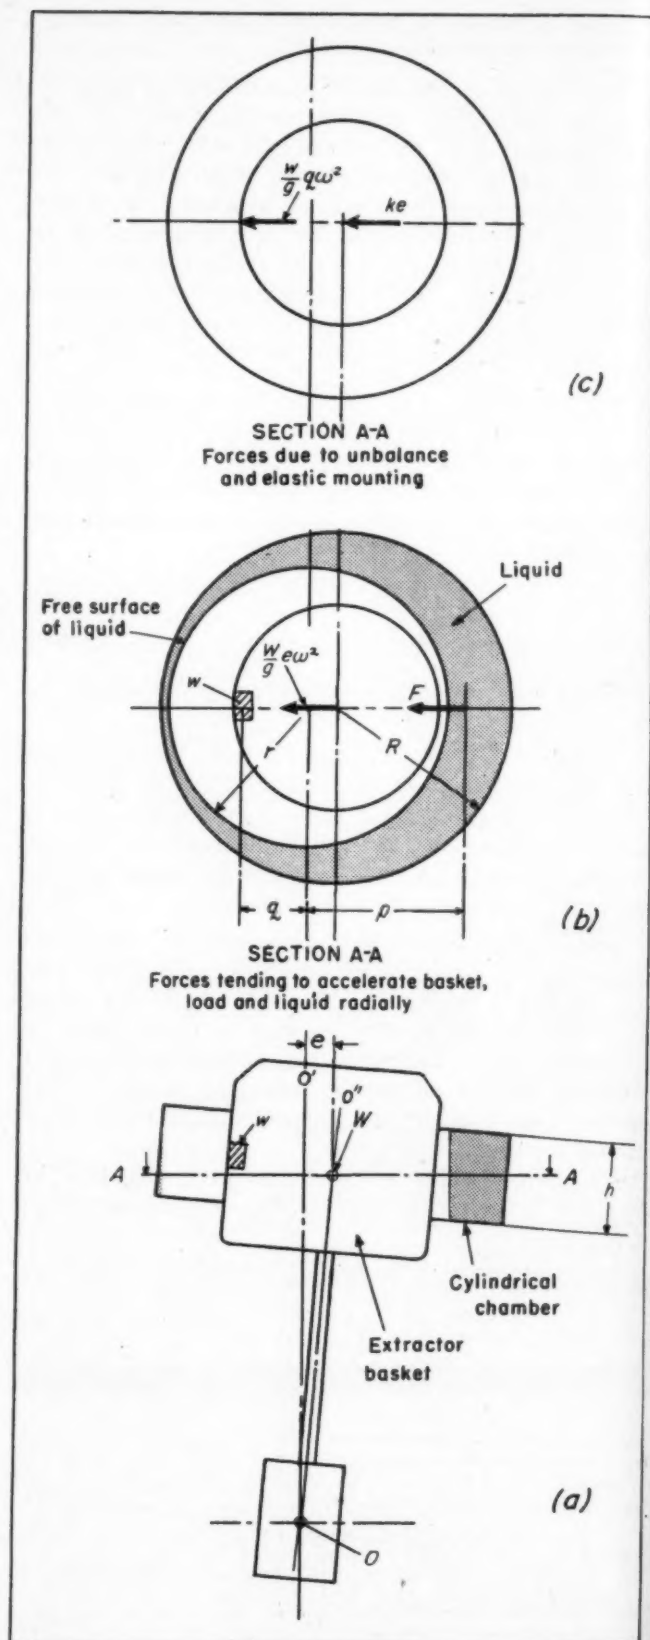

Fig. 5—Diagram of Leblanc balancer for typical operation above critical speed. For this state, liquid in balance chamber tends to correct unbalance
**Description:** The Leblanc balancer consists of simply a cylindrical chamber, Fig. 5, partially filled
with a heavy liquid, such as tetrabromomethane with carbon tetrachloride. Fig. 5 shows this device in its most effective position surrounding the extractor basket. This places the balance correction more nearly in the plane of the unbalance, thus reducing the reaction at the pivot point  $O$ , as previously discussed. The basket is here shown deflected as it would be at some instant during rotation above the critical speed with no damping. For clarity the proportions of Fig. 5 are somewhat exaggerated.
Because these two systems of forces shown in Fig. 5 are equivalent systems, they may be equated: